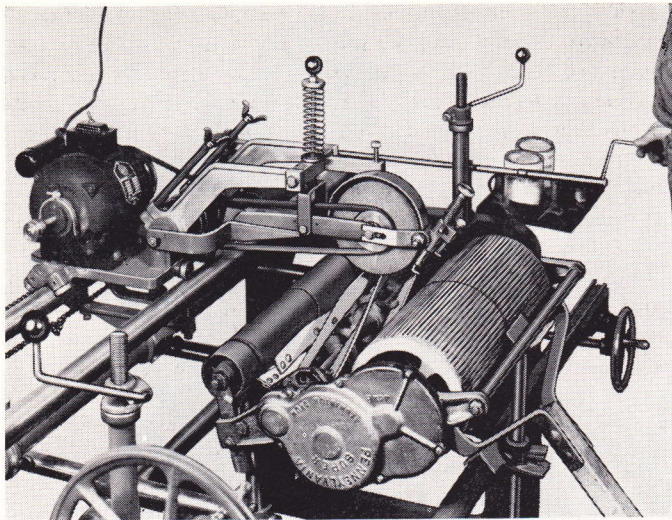

Fig. 18
99. Another method of grinding the reel by the straight line principle would be to place the entire mower in the machine, but without the bed knife assembly being replaced in the mower. (See Fig. 18). Thus, the mower would be in the machine and the reel free to turn in its own bearings. Here, again, the mower is positioned with the adjustments supplied on your Peerless and the reel leveled and set so it will be square with the front main carriage shaft. After you have positioned the mower so it is square, you are again ready to follow the instructions outlined above in straight line grinding for grinding the reel blades.